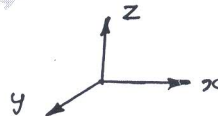

Fig.Q2(c)
c. A metallic bar 300mm  $\times$  100mm  $\times$  40mm is subjected to a force of 5 kN (tensile), 6 kN (tensile) and 4 kN (tensile) along x, y and z direction respectively. Determine the change in volume of block, volumetric strain. Take  $E = 2 \times 10^5$  N/mm2 and  $\mu = 0.25$ . Refer Fig.Q2(c) for coordinate directions.